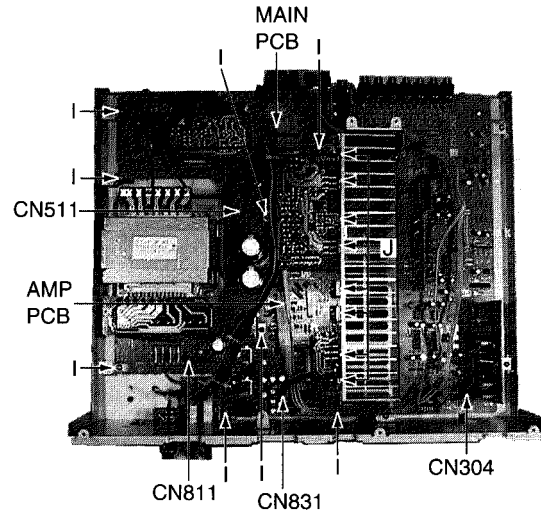

Fig.7
- 3.Disconnect the wire CN811 on the MAIN P.C.Board. (Fig.7)
- 4.Disconnect the wire CN304 on the INPUT P.C.Board. (Fig.7)
(7) MAIN P.C.BOARD Removal (Fig.7,8)